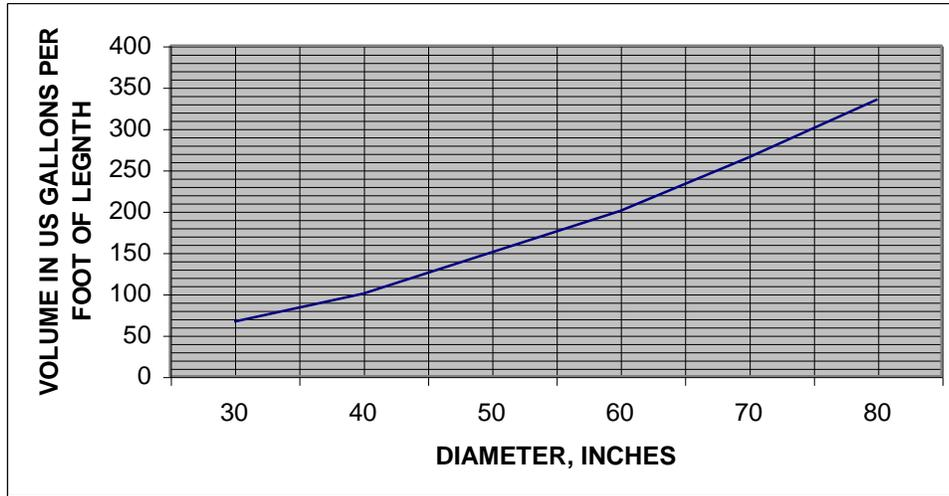

Figure 1
- From Figure 1 determine the volume of water (V_1), which could be withdrawn from a tank initially 50% full of water at P_h to result in a reduction of pressure to P_1 . These calculations are based on the assumption that the vessel temperature remains constant.
- For example, if $P_h = 100$ PSI and $P_1 = 80$ PSI it is determined from Figure 1 that $V_1 = 12.5\%$ of the total tank volume. That is, if the tank were 50% full when the air pressure was 100 PSI, withdrawal of a quantity of water equal to 12.5% of the total tank volume (V_T) would reduce the air pressure to 80 PSI.
- a. From Figures 1 and 2 determine the volume of water which can be withdrawn from the tank to cause the tank pressure to fall from P_h to P_1 (see A1a above).